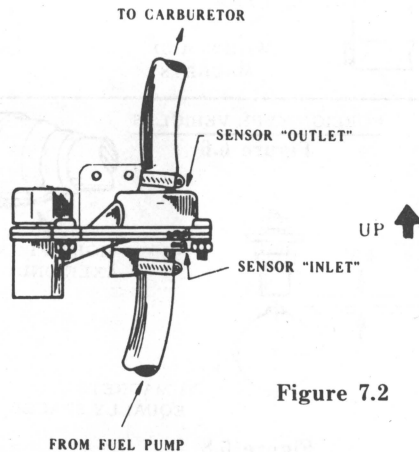

Figure 7.2
2. Slide a hose clamp (43) on each end of the cut hose. Then, slide the hose ends over the ends of the flowsensor inlet and outlet as shown in figure 7.2. Be sure that the fuel enters from the fuel pump into the flowsensor inlet, and that the outlet feeds the carburetor.